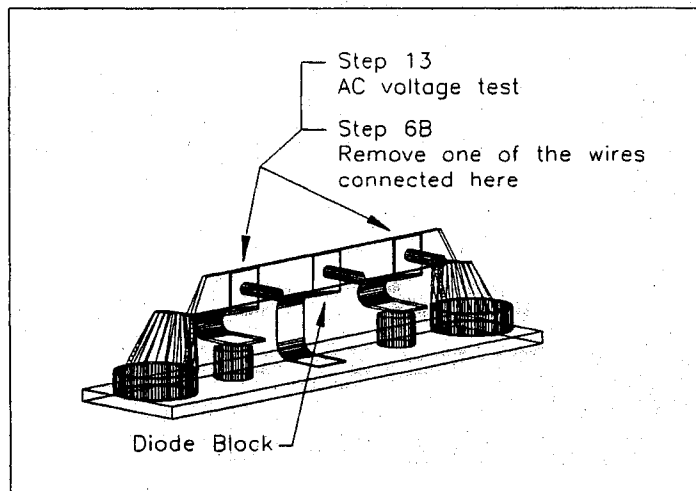

Figure 3-20
- b) Remove one lead from one diode (see figure 3-20).
13. Measure AC voltage at diodes (see figure 3-20).